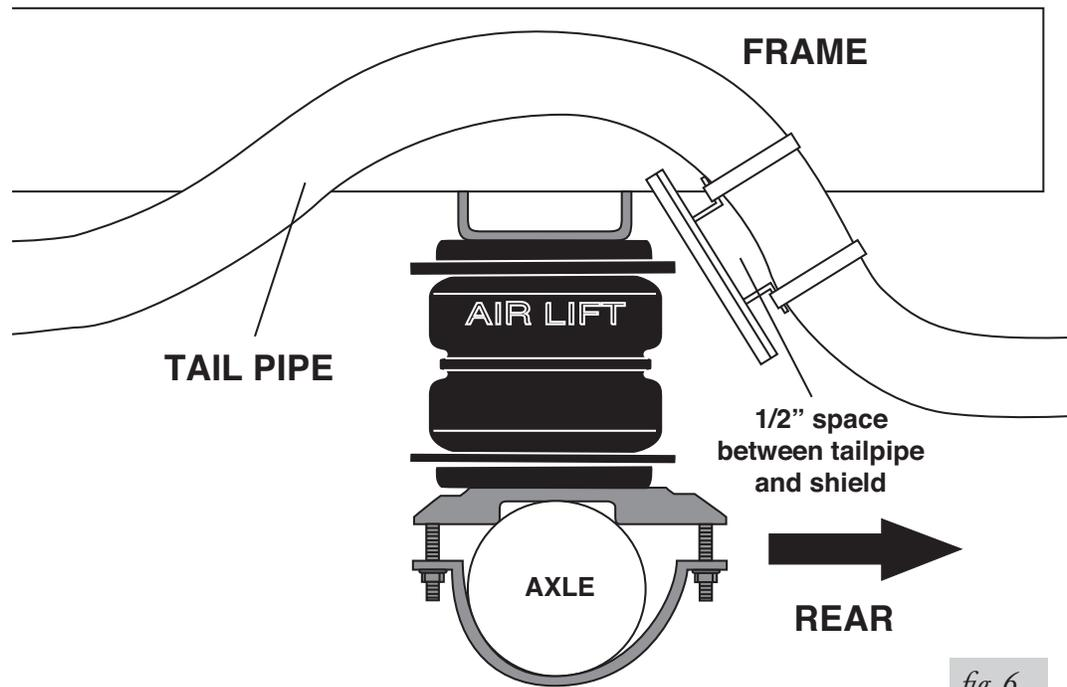

fig. 6
9. Installation of this kit requires an exhaust heat shield (Fig. 6). The shield is attached to the exhaust pipe, with the flanges bent for component clearance. **Bend tabs to provide 1/2" dead air space between exhaust pipes and heat shield and maximum clearance with air spring.**